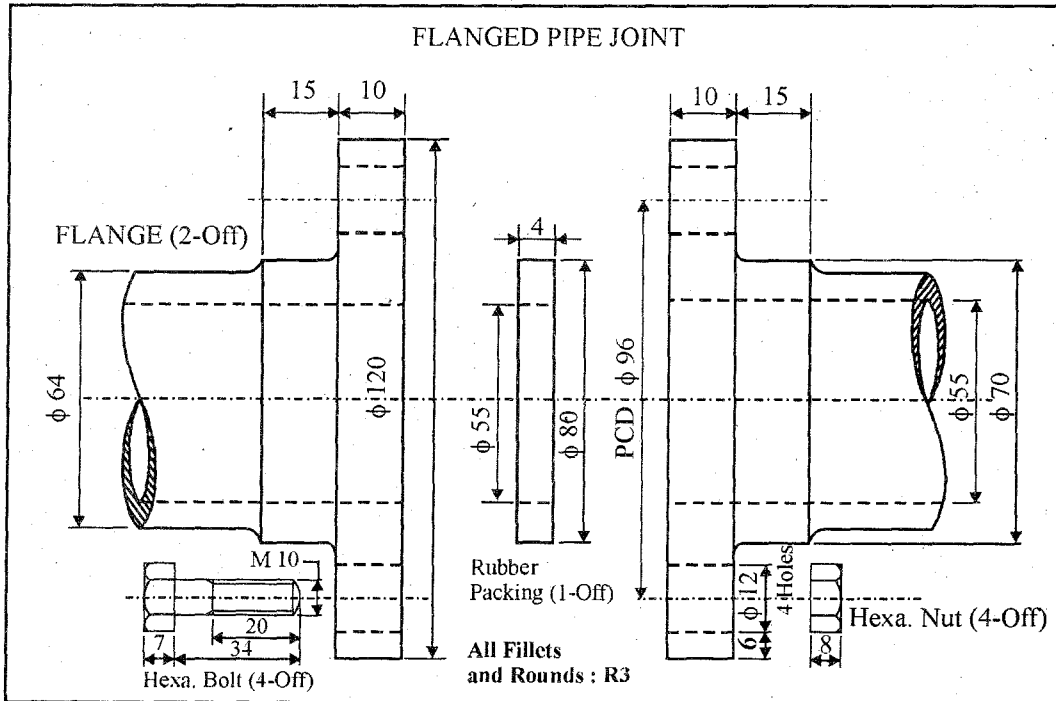

Fig. 1 / चित्र 1
3. Figure 1 shows the details of the parts of a Flanged Pipe Joint. Assemble these parts, correctly, and draw, to scale 1 : 1, the following views :